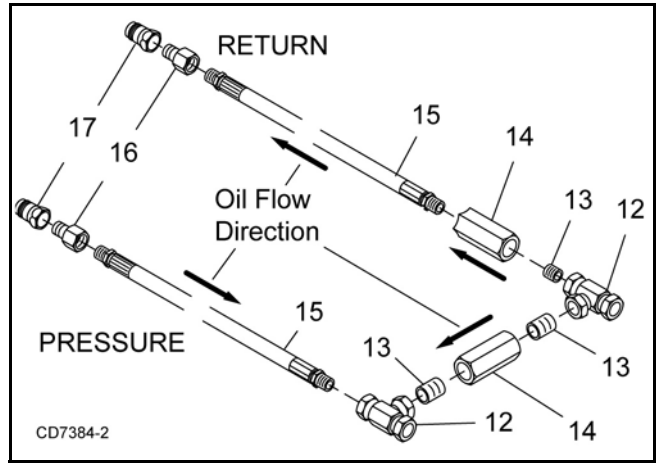
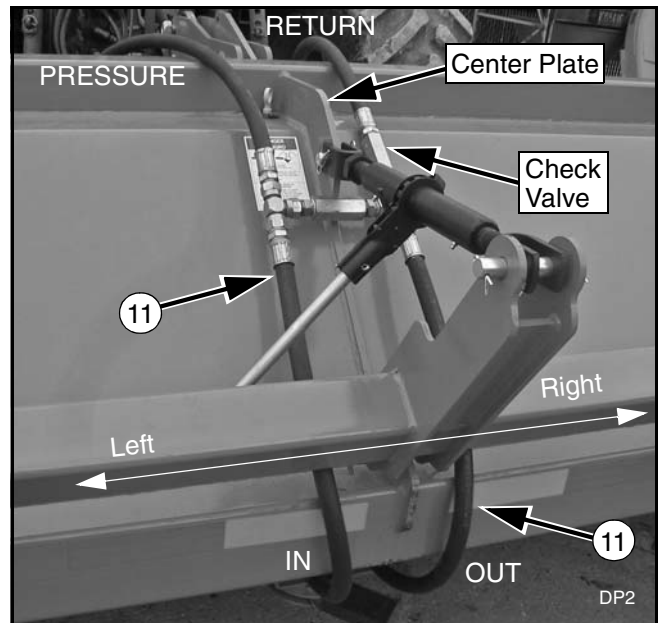

Figure 54. Hose Assembly
Figure 55. Hose Routing
1. Attach male quick coupler (17) and adapter (16) to the end of hose (15). Attach tee (12) to the opposite end of hose.
2. Attach male quick coupler (17) and adapter (16) to the end of second hose (15). Attach check valve (14), nipple (13) and tee (12) to the opposite end of hose.
NOTE: Make sure flow indicator arrow on the side of the check valve (14) is pointing in the correct direction. See Figure 54
3. Install check valve (14) and two nipples (13) between the two tees (12).
4. Place hose assembly around center plate of shredder and drape quick couplers over the front of the shredder. See Figure 54 and Figure 55.